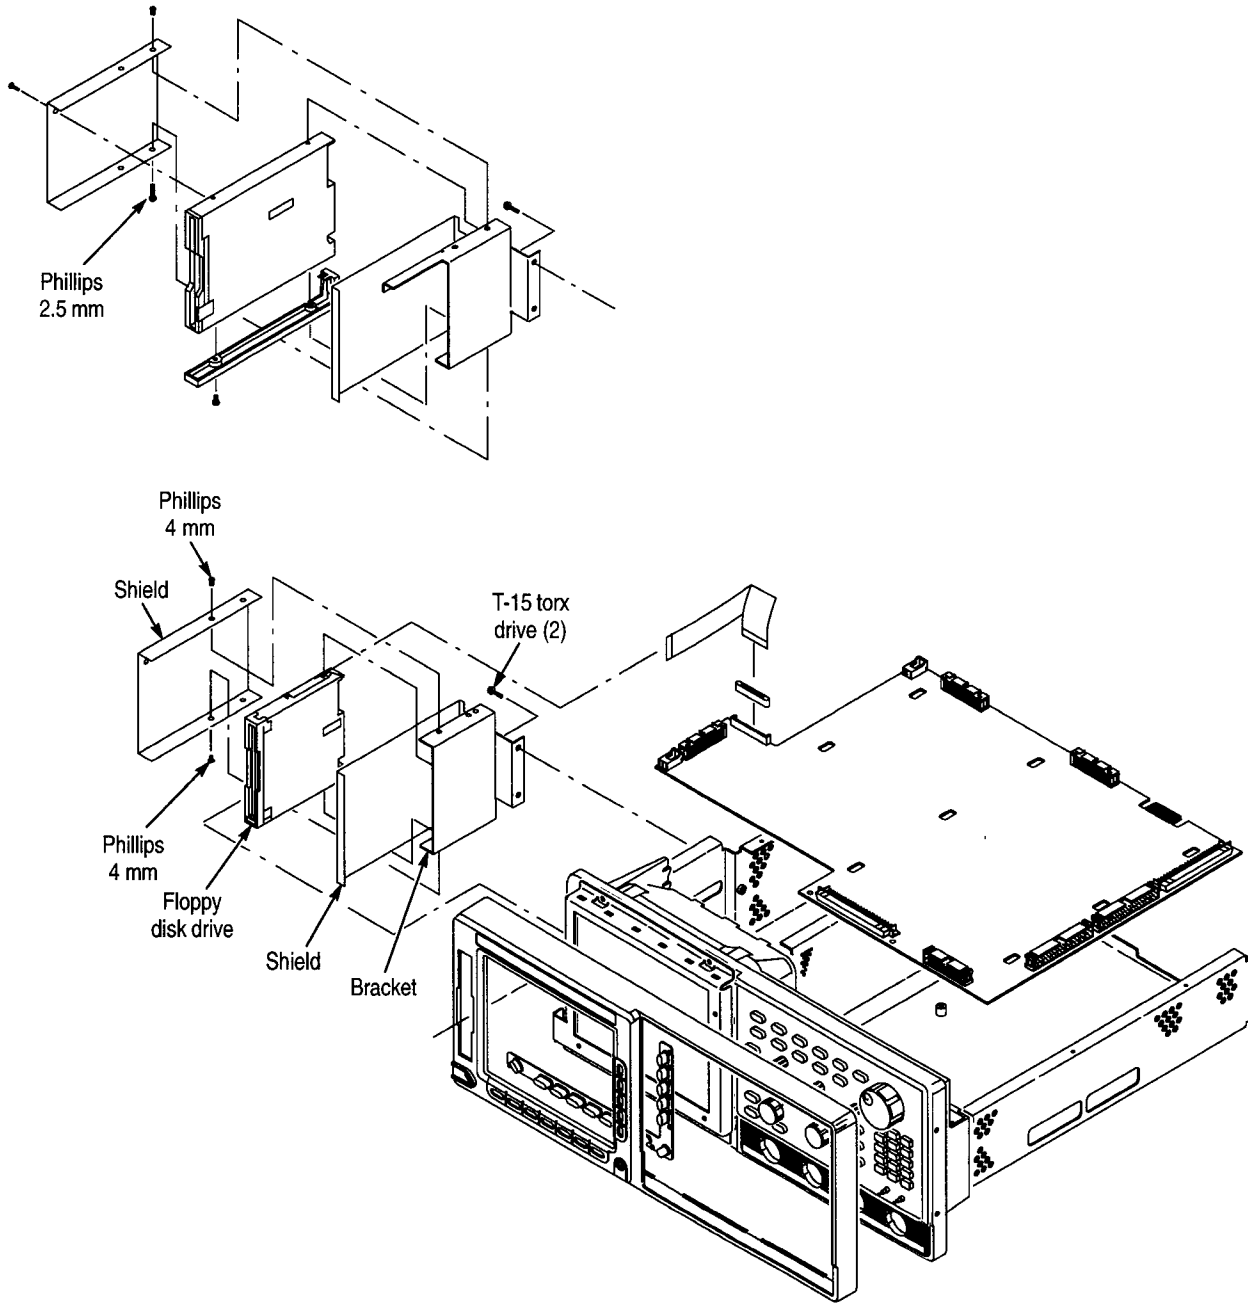

Figure 3: Floppy disk replacement
1. Remove the Floppy Disk (see Figure 3):
2. Install the new floppy disk drive (provided in this kit) as follows (see Figure 3):
- a. Secure the disk drive assembly (floppy disk drive and shields) to the bracket using Phillips screws. Install the screws into the mounting holes as shown in Figure 3.
NOTE. Due to vendor differences in floppy disk drive dimensions, your instrument may require an adapter bracket on the bottom of the drive. If this is the case, use the inset in Figure 3 as a guide for installation.